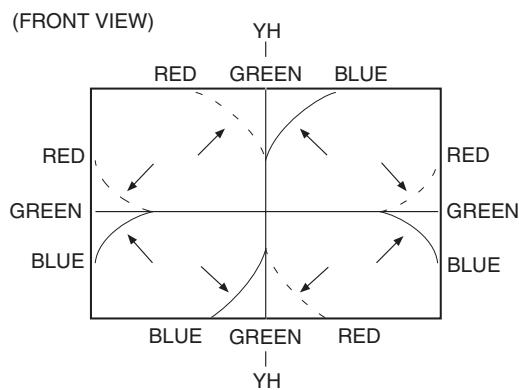

Fig. 7
3. Using the VR on the deflection yoke, match the YH (CROSS). (Fig. 7 and 9)